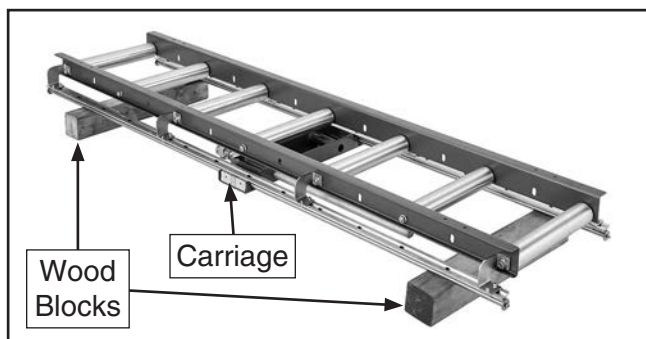

Figure 3. Use wood blocks to keep weight off carriage during leg installation (T28173 shown).
1. Place 4 x 4 blocks on floor positioned near ends of roller table assembly, as shown in **Figure 3**. The blocks will be used to keep weight of table assembly off carriage.
2. With help from another person, turn roller table assembly upside down, then place rails on top of 4x4 blocks (see **Figure 3**).